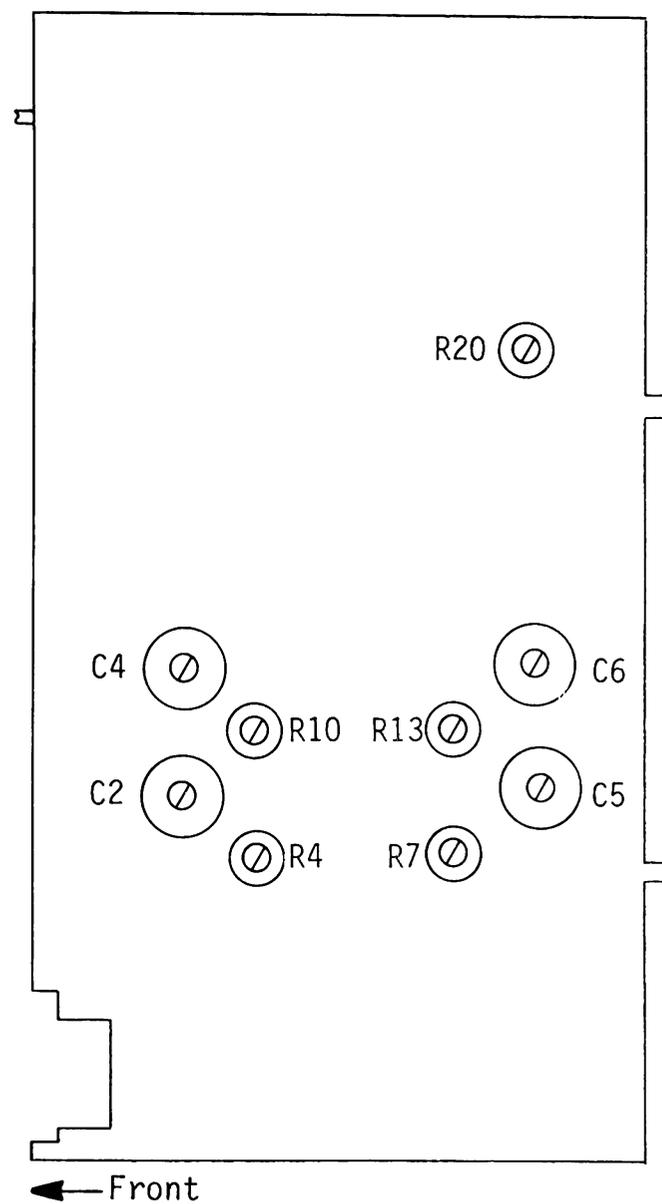

Figure 9 - Right side view
- b. Adjust R20 (Figure 9) until the trace is aligned with the horizontal marker line.